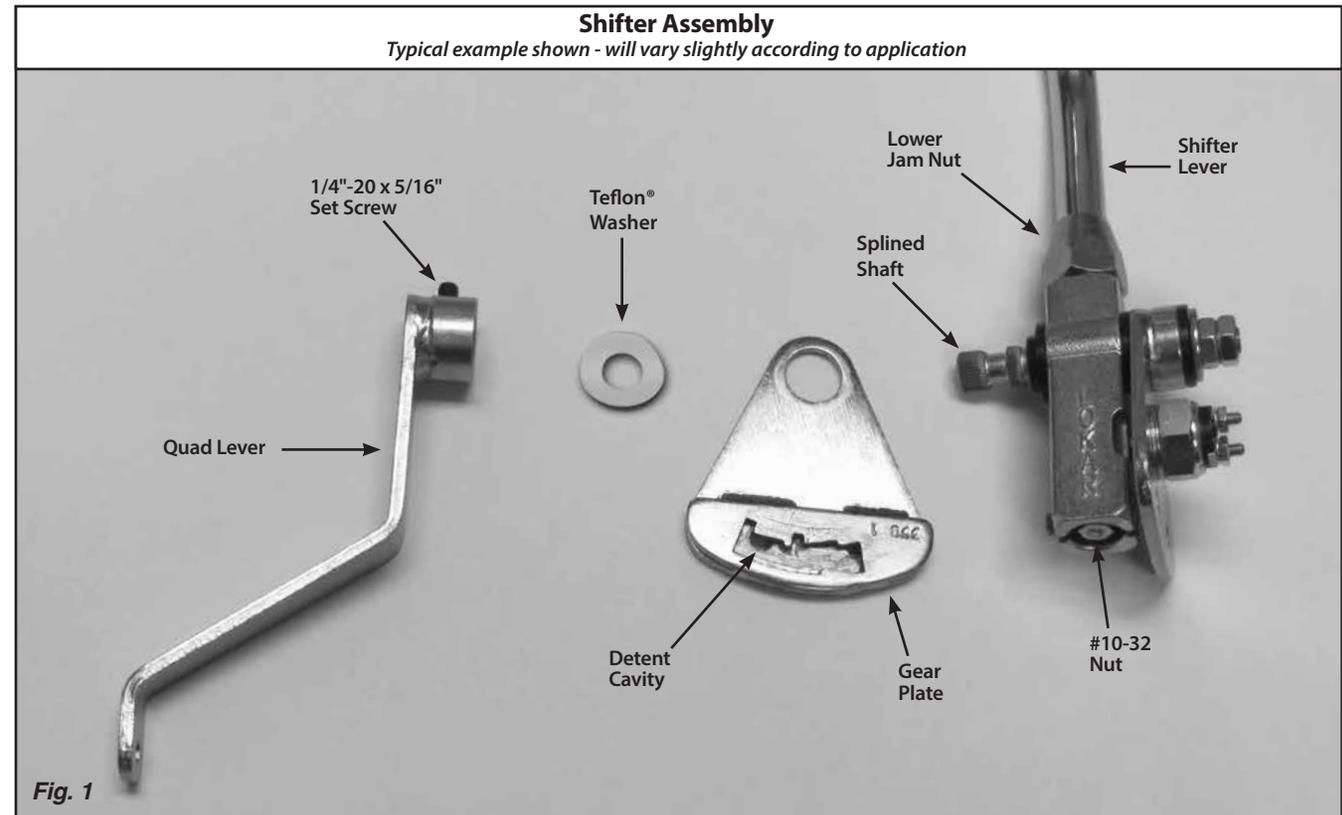

Fig. 1
**Step 3:** Disconnect the shifter linkage from the quad lever, unbolt the shifter assembly from its mounting brackets, and remove the shifter assembly from the vehicle. **Fig. 1**